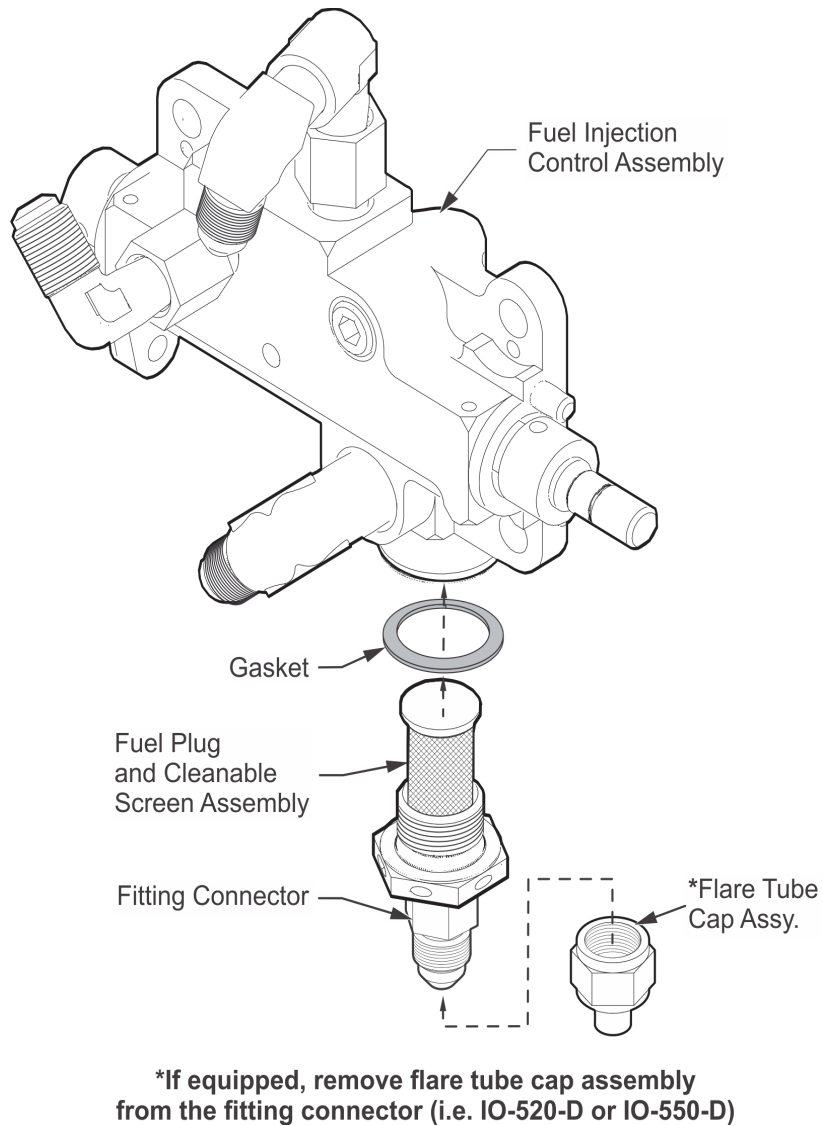

Figure 1. Fuel Injection Control Assembly - Exploded View, typical
Continental Aerospace Technologies™ (Continental®) aircraft engine fuel injection systems equipped with throttle and control assemblies (see Figure 1 on page 3) feature a cleanable fuel screen assembly. The throttle and control assembly may be covered with a shroud.
2. Remove the fuel plug and screen assembly (with gasket) from the fuel injection control assembly housing; discard the gasket (see Figure 1). If equipped with a fitting connector and flare tube cap assembly, remove the flare tube cap assembly from the fuel plug and screen assembly (i.e. IO-520-D or IO-550-D). Inspect the fuel screen for damage.